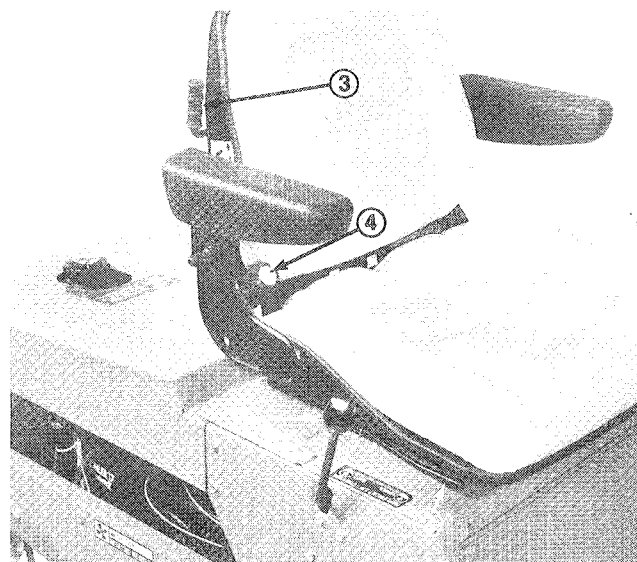

Figure 12
**Implement Lift Lever** (Fig. 12) The hydraulic lift lever has three positions: LOWER, RAISE, and NEUTRAL. To lower cutting unit to the ground, move lift lever forward. When lowering cutting unit, make sure hydraulic cylinder is completely extended before releasing lift lever. To raise cutting unit, pull lift lever rearward to the RAISE position.
**Deluxe Seat Adjustments** (Fig. 12) — **Fore and Aft Adjustment** — Move lever on right side of seat outward, slide seat to desired position and release lever to lock seat into position.